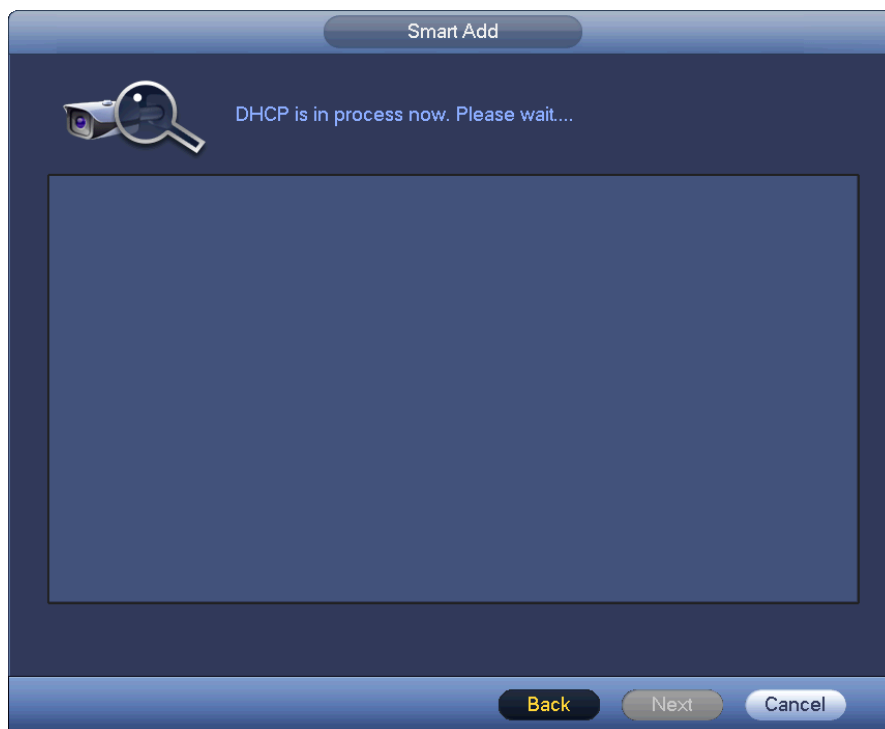

Figure 4-20
- 1) Device now enables DHCP function. It says DHCP is in process now, please wait. See Figure 4-20.